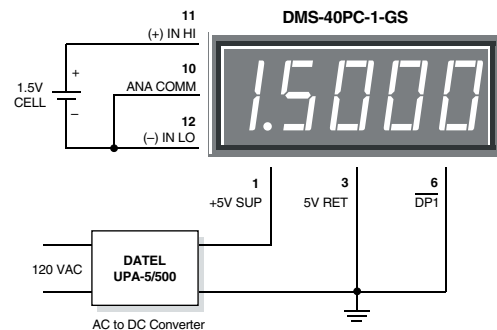

Figure 5. Floating Input Measurements
4. Floating Signal Source Measurements: A floating input is a signal that, before it is applied to the DMS-40PC's inputs, has no galvanic connection (direct current path) to the meter or the meter's power supply. The circuit shown in Figure 5 illustrates the necessary connections for measuring floating inputs. The 1.5V battery represents a true floating input signal since it initially has no connection whatsoever in common with the meter. Real-world floating inputs typically originate from power supplies which are transformer isolated from the DMS-40PC's +5V supply.
As the timing diagram in Figure 5 indicates, 100Hz is the optimum display scan rate when the BCD outputs are used to drive external LED displays. Faster scan rates, while permissible, are not necessary. Slower scanning, however, may result in noticeable "flickering" of the display. Common anode LED's, combined with a 74LS247 BCD to seven-segment decoder, is the simplest way of implementing an external display. A seventy-five to one-hundred Ohm resistor on each